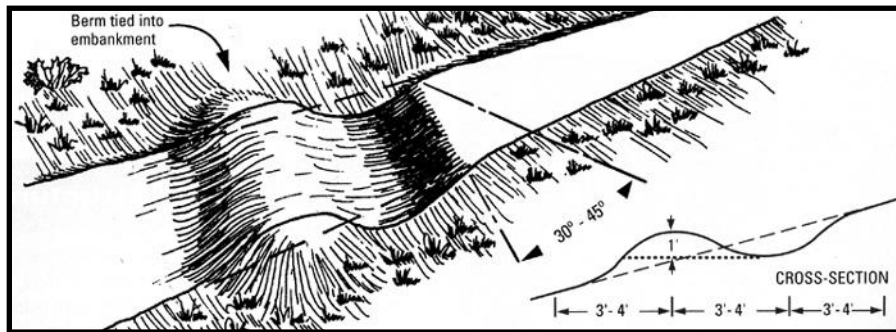

Figure 4. Waterbar Design
- Waterbars are generally **built at a 30 degree angle** (see Figure 4). The distance between waterbars will vary from every 250 feet on gently sloping trails to every 40 feet (or less) on steep trails (see Table 4).